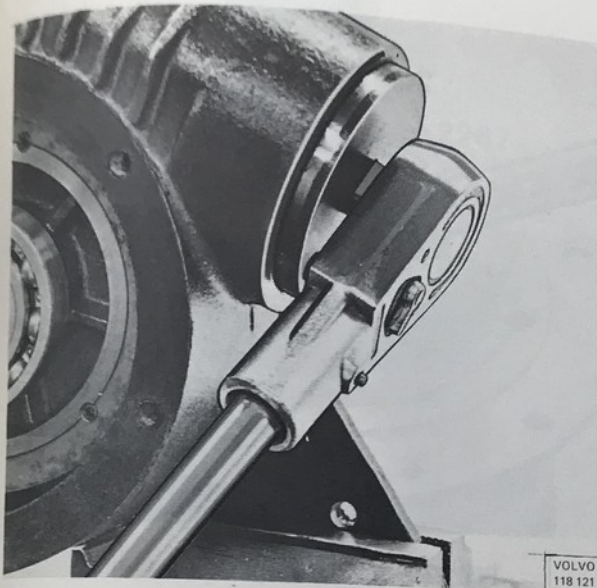

Fig. 92-56. Removing the cover
17. Fix the gear housing in a vice. Screw out the rear cover, see Fig. 92-56. Remove the cover, the thrust washers, spacer ring and bearing race.